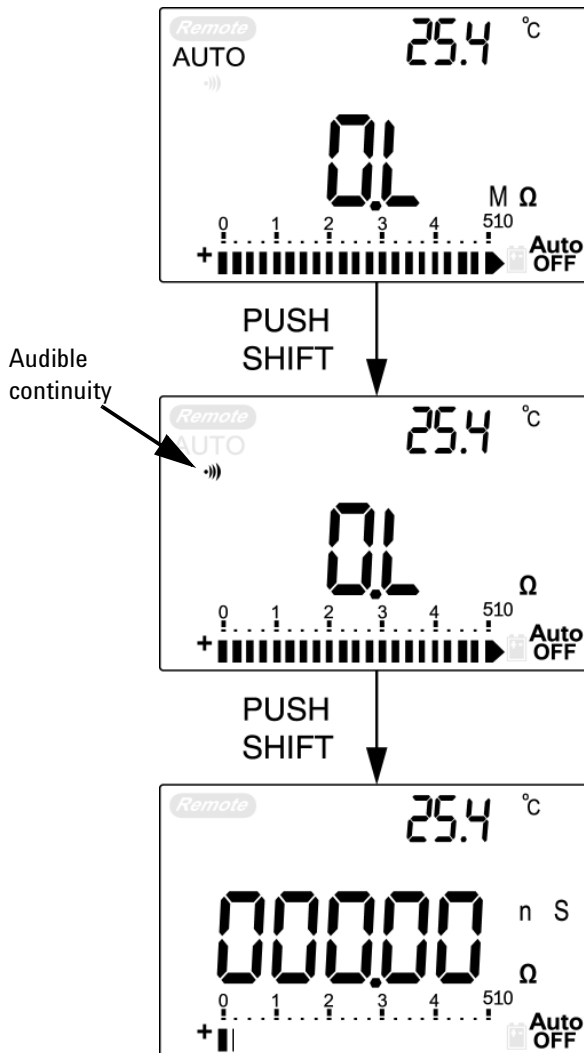

Figure 10 Audible continuity, conductance and resistance test.
- 4 Push  to scroll through audible continuity, conductance and resistance tests as shown in **Figure 10**.